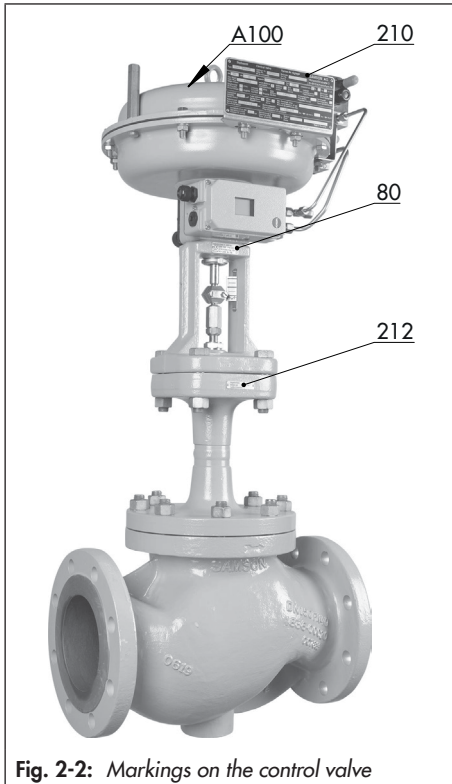

Fig. 2-2: Markings on the control valve
The nameplate for the gas version (210) is affixed to the actuator (see Fig. 2-2).
The valve nameplate (80) is affixed to the flange (see Fig. 2-2).
The actuator nameplate (A100) is stuck to the diaphragm casing (see Fig. 2-2).
The plate with the DVGW register number (212) is affixed to the bellows seal (see Fig. 2-2).